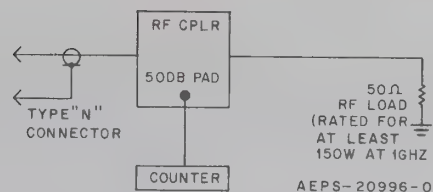

Figure 1. Frequency Adjust Equipment Setup
Step 2. Couple a frequency counter with a time base of at least 0.1 ppm to the PA output. Attach test equipment as indicated in Figure 1.
Step 5. Set the controls on amplifier as indicated below. (See Figure 1.)